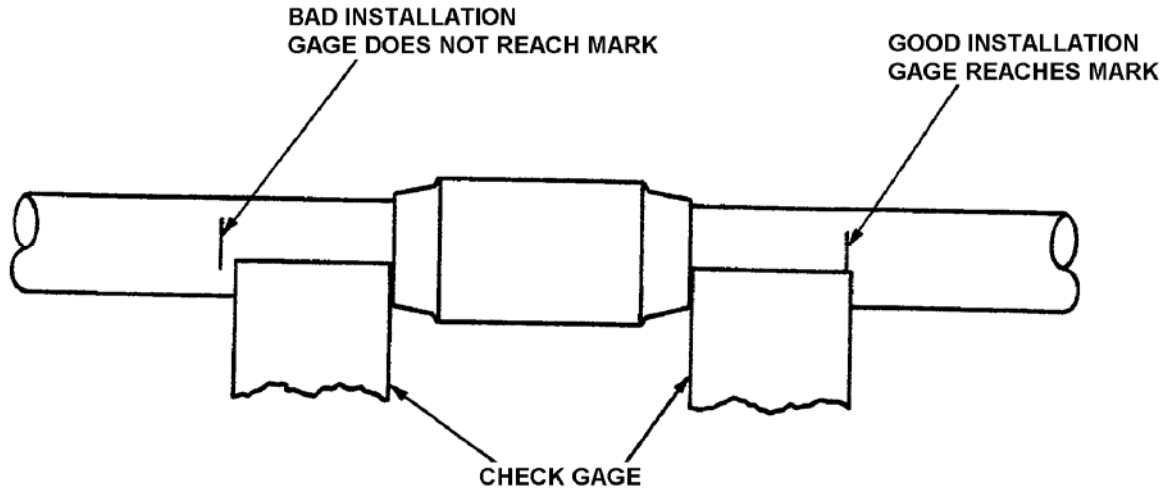

Figure 10. Checking Cryofit Coupling
r. Place the check gage against the coupling end. The check gage should reach or cover the inspection mark (Figure 10).
s. Repeat on the other end of the coupling. If the check gage reached both inspection marks, the tubes have been properly inserted and the connection is complete (Figure 10).